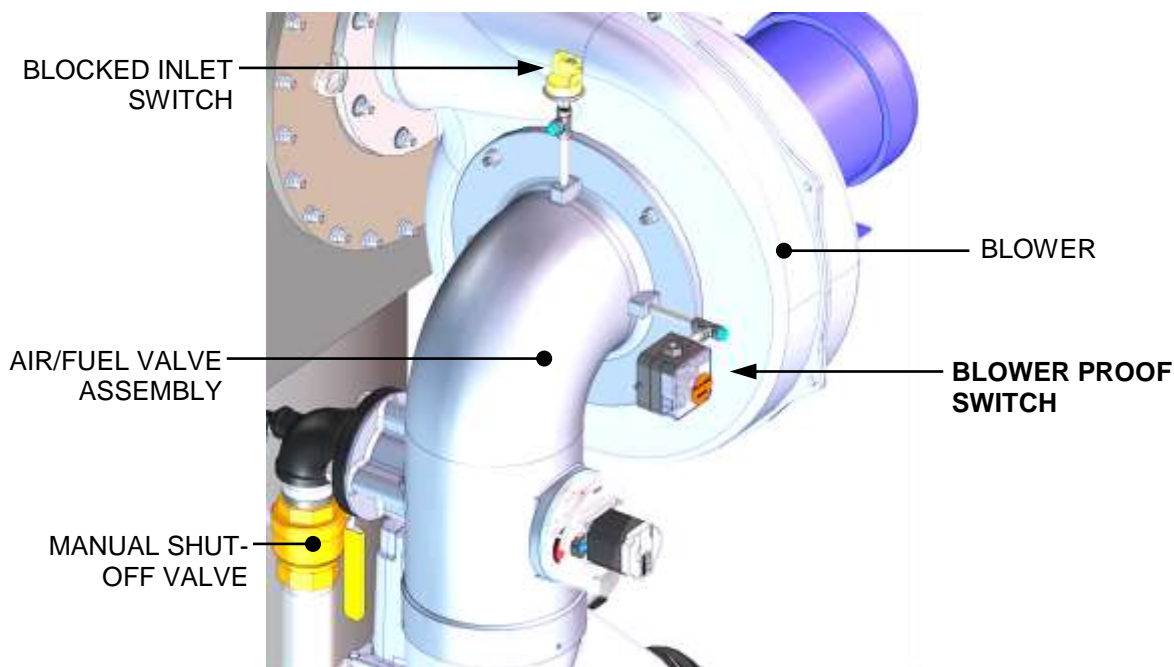

Figure 3-3: Blower Proof Switch
4. Next, the blower proof switch on the Air/Fuel Valve (Figure 3-3) closes. The display will show *PURGING* and indicate the elapsed time of the purge cycle in seconds.